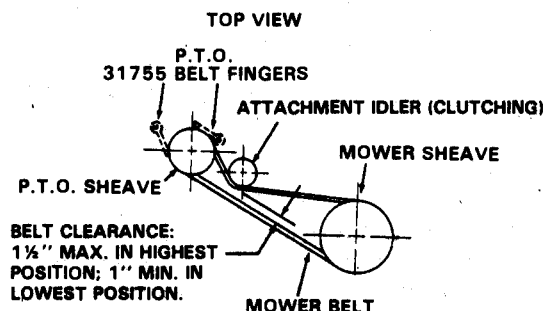

FIGURE 14
4. Raise the mower pan to its mid position and remove the Mower Belt from the PTO Sheave; lower the pan and remove the belt from mower pan. See Figure 14.
2. Raise the mower pan to its center position and install the Mower Belt around the PTO Sheave. See Figure 14.